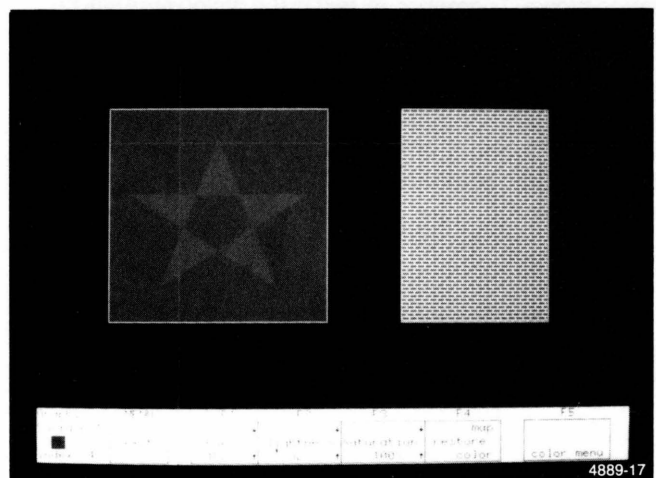

Figure 3-12. Display With Modified Color.
- You have redefined color 4 in the graphics area to brown, with HLS values of 152, 32, 100 (Figure 3-12). You can now do any of the following: